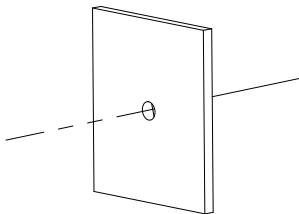

Figure 2-8 Drill on the Surface
1. Drill on the mounting surface, as shown in Figure 2-8.